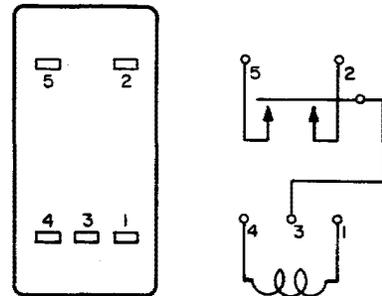

Fig. 77 – Winding and Terminal Numbering — 323- and 326-Type Relays
2.83 As viewed from the rear, the winding and contact terminals are arranged in two horizontal rows. The upper row of terminals is numbered 5 and 2 respectively, starting at the left. The lower row of terminals is numbered 4, 3, and 1 respectively, starting at the left as shown in Fig. 77.